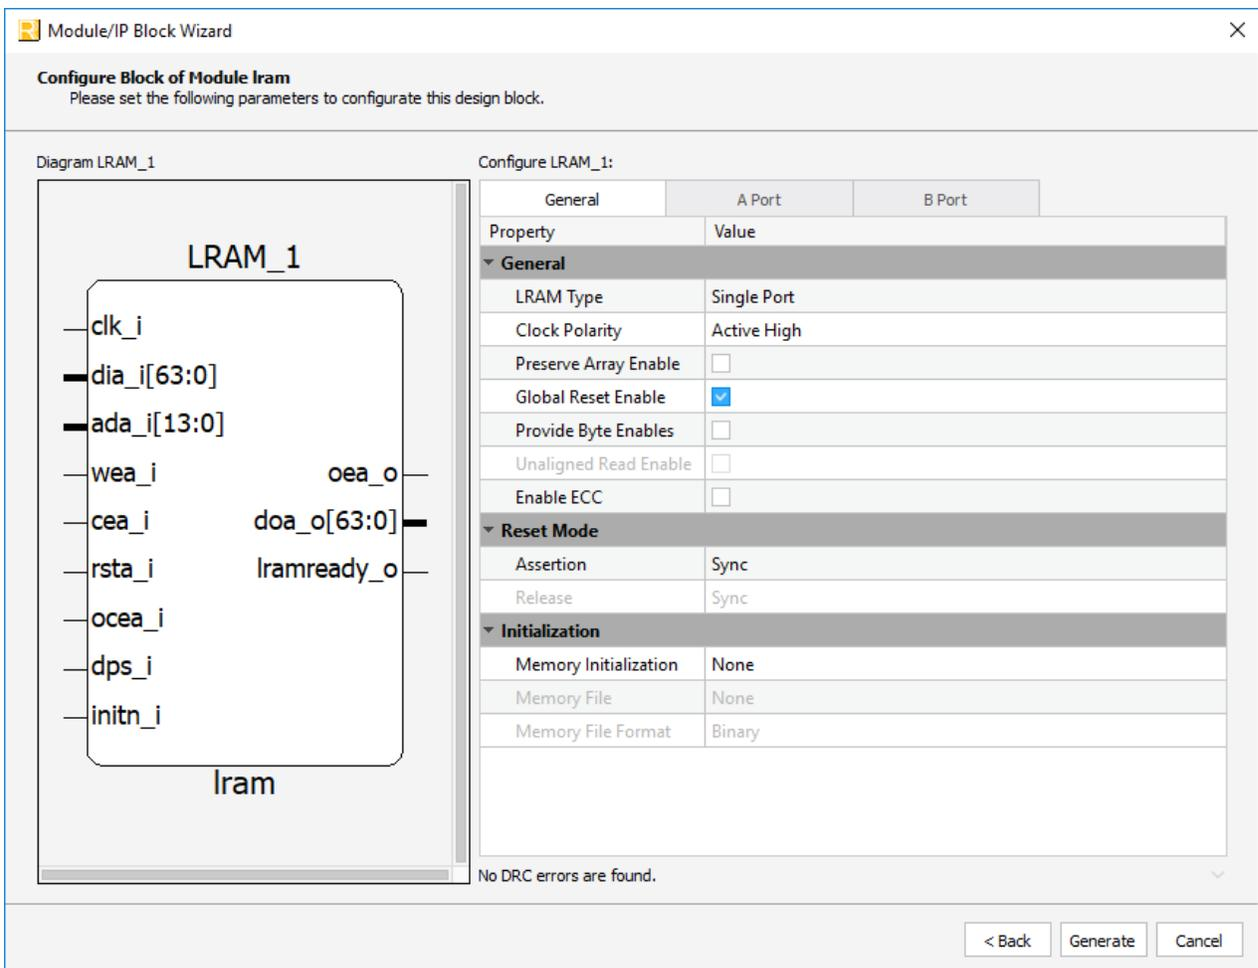

Figure 4.1. Configure Block of LRAM Module
2. In the dialog box of the **Module/IP Block Wizard** window, customize LRAM Module using drop-down menus and check boxes as desired. As a sample configuration, see Figure 4.1. For configuration options, see Table 2.3, Table 2.5, Table 2.7, and Table 2.9.